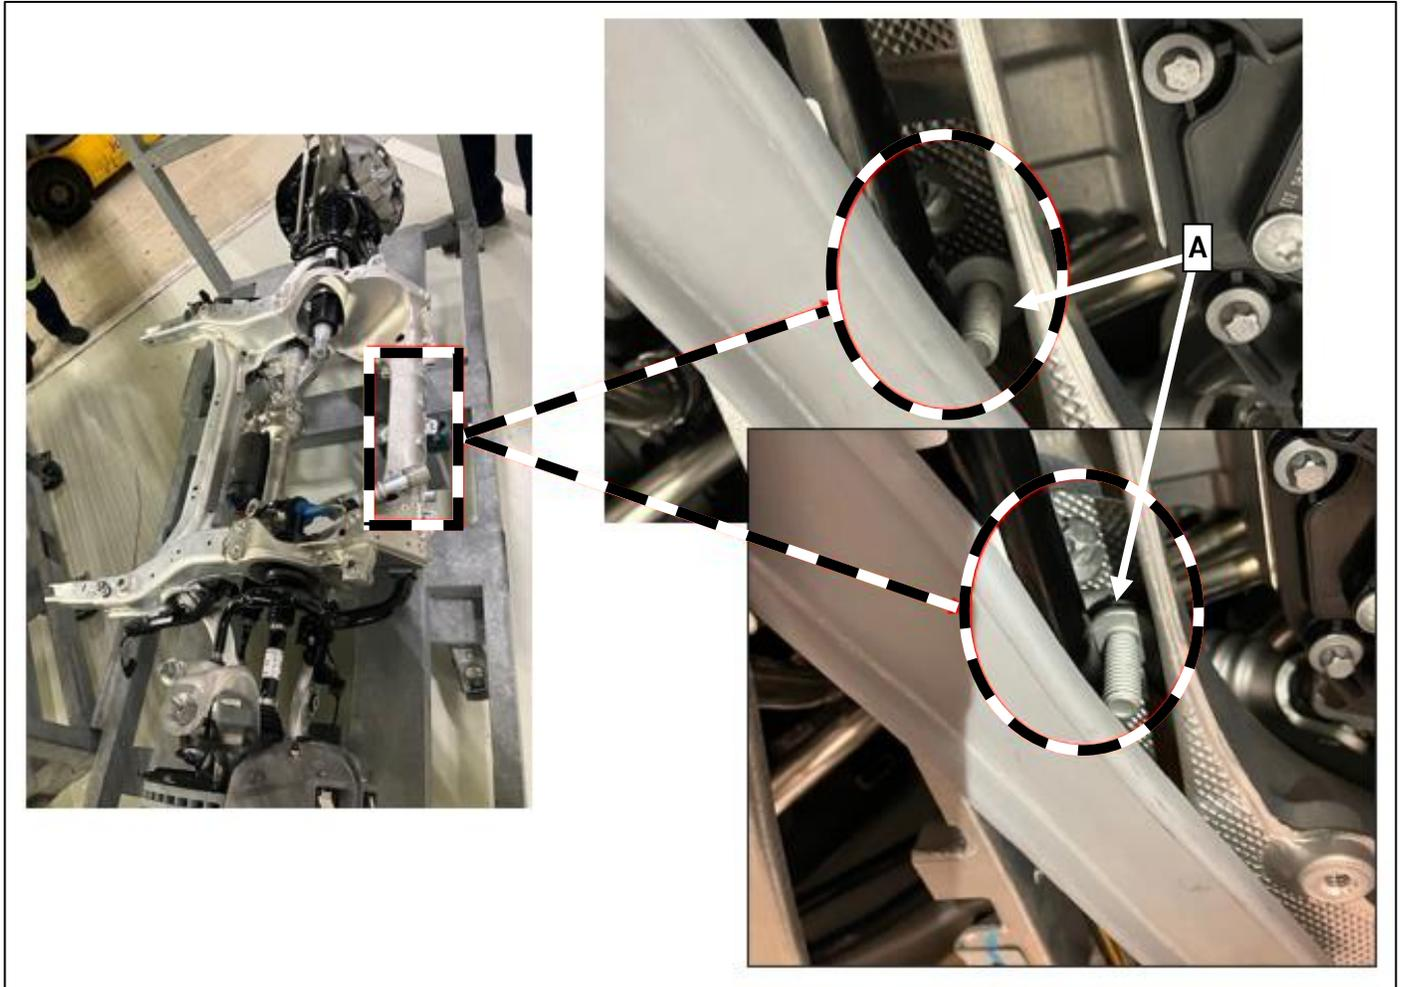

Figure 1
2. Check area between torsion bar and integral carrier for presence of loose or jammed screw (Figure 1, A).
i Use mirror and flashlight to inspect area (Figure 1) between torsion bar and integral carrier.